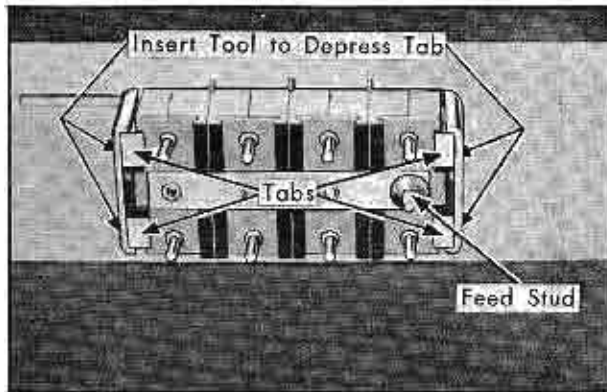

Fig. 3-12 Master Window Control Switch
3. To remove switch from belt finishing insert molding or ash tray, depress tabs with pointed tool inserted through holes indicated in Fig. 3-12; pry tabs free and remove switch.